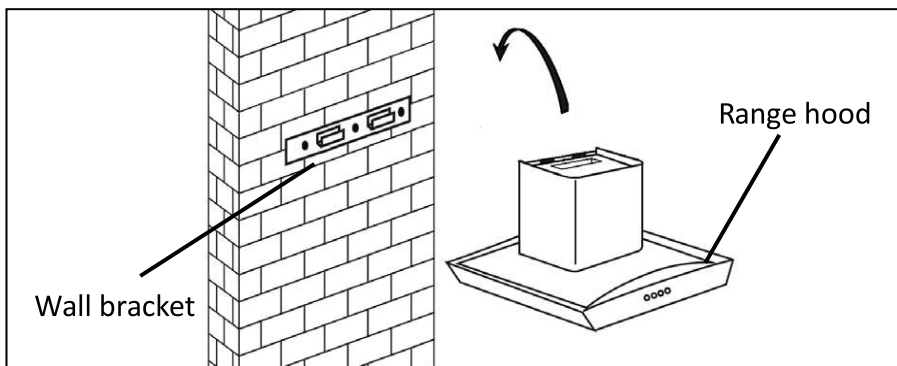

Fig.5
- Leave up the range hood and hang onto the wall bracket hook. (Fig.5)